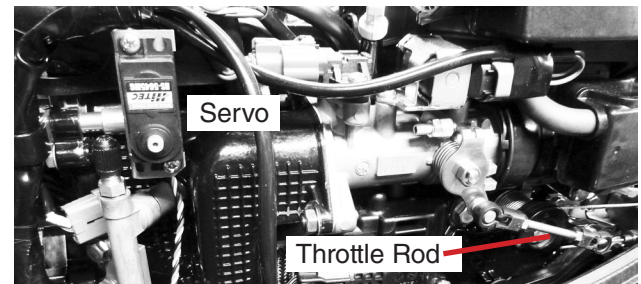

Fig 3
- Place SERVO BRACKET (A) over bolt. Servo "pocket" faces forward - See Fig. 3
- Place supplied LOCK WASHER (B) on bolt.
- Thread supplied NUT (C) on bolt and tighten securely.
Step 4: See Fig. 3
Step 5: See Fig. 3